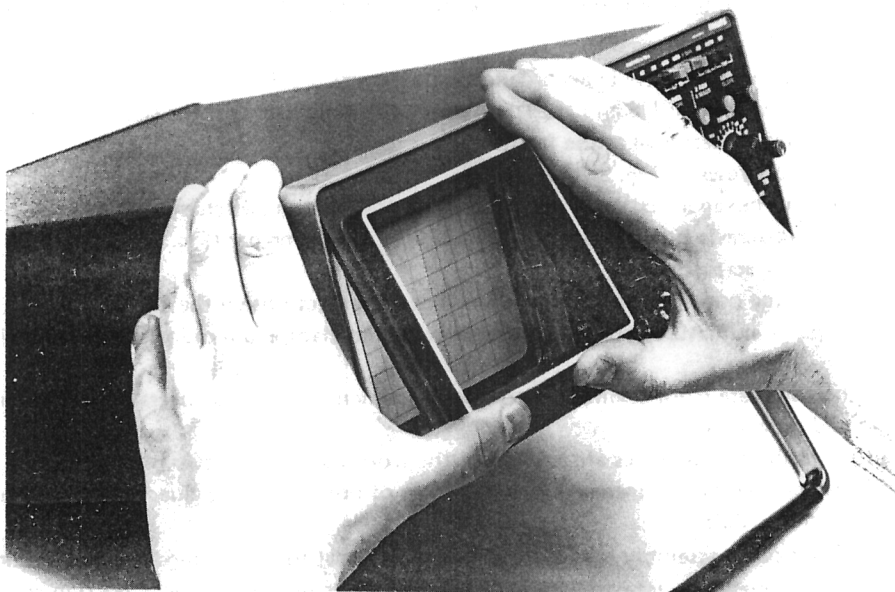

Fig. 3.22. Removing the bezel and the contrast plate.
- Take hold of the bezel's bottom corners and gently pull it from the front panel (Fig. 3.22).